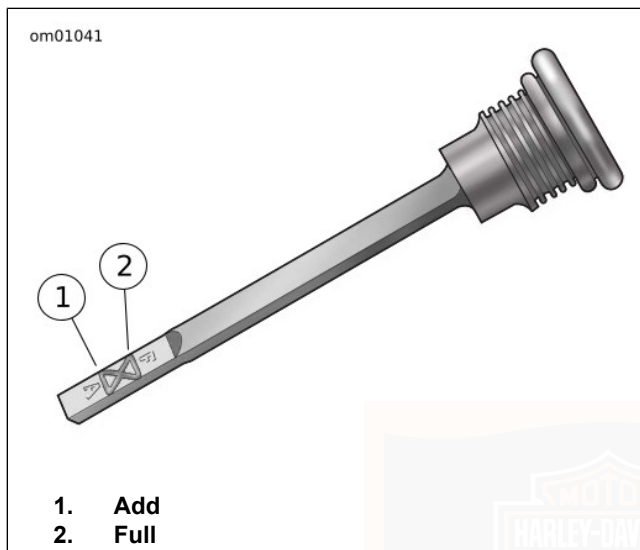

Figure 31. Transmission Dipstick Lubricant Level
4. See Figure 31. Remove dipstick. Check lubricant level on dipstick.